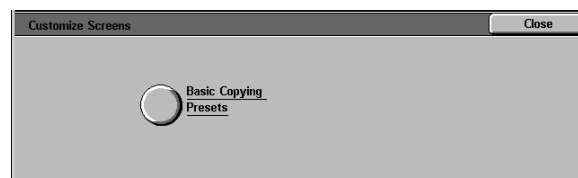

Figure 48: Customize Screens screen
- 1 On the Tools screen, touch the **Customize Screens** button to display the Customize Screens screen, as illustrated in Figure 48.